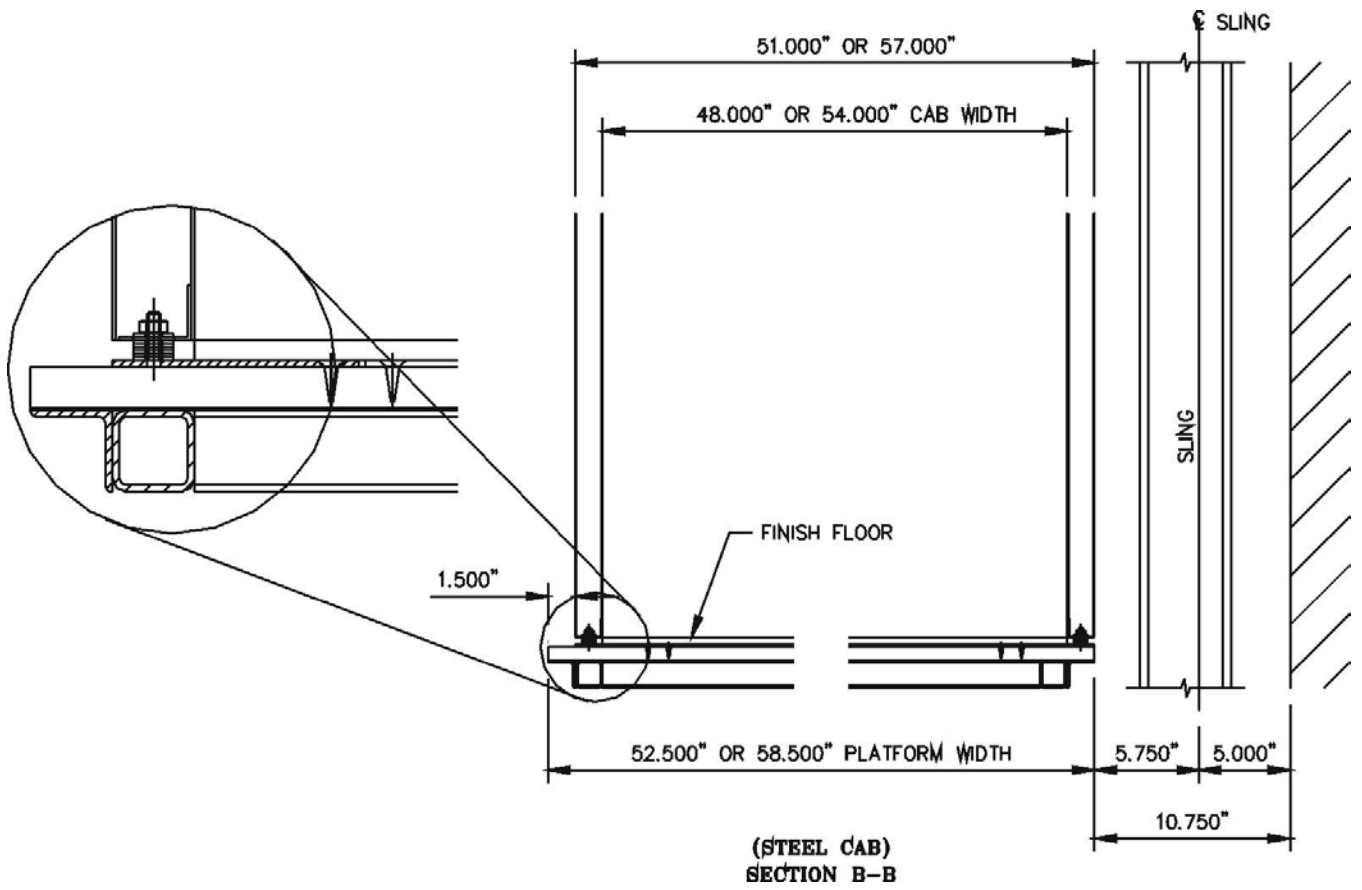

Figure 76 Steel Cab
- 3) Position the cab walls (with base plates) flush to the platform starting with the control wall first, then the front wall, the opposite wall and finally the rear wall. Secure the walls to the platform using #10 -  $\frac{3}{4}$ " wood screws supplied. Refer to Figure 76 or 77.